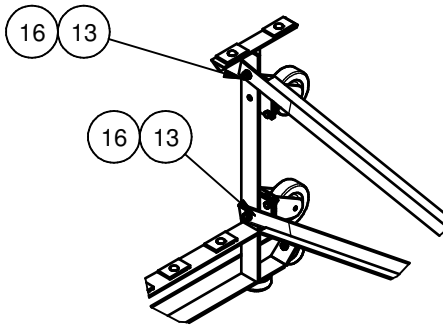

Figure 4
3. Lay out the Frame weldments approximately 4'-6" apart. Install the brace sub-assemblies from step 1 using the 3/8" x 1" hex bolts and 3/8" whizlock nuts as shown in Figure 4.
7. Install the seat planks using the mounting clips, 5/16" x 1" carriage bolts, and 5/16" whizlock as shown in figure 4. Note: these mounting clips, bolts, and nuts are required at every frame position.